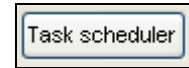

Figure 11.4.4
- Next click on the **Task Scheduler** button to the right of the screen (Figure 11.4.4).